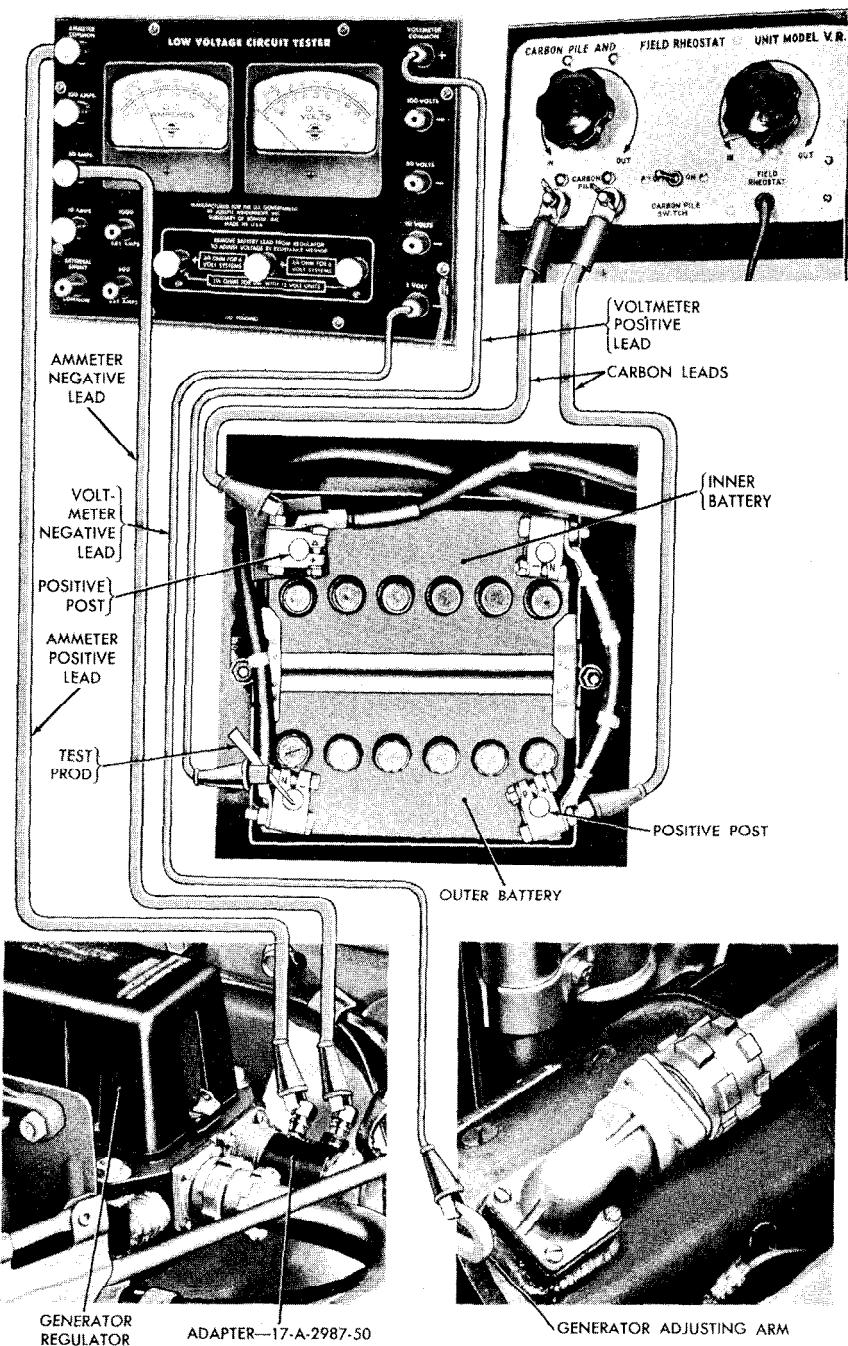
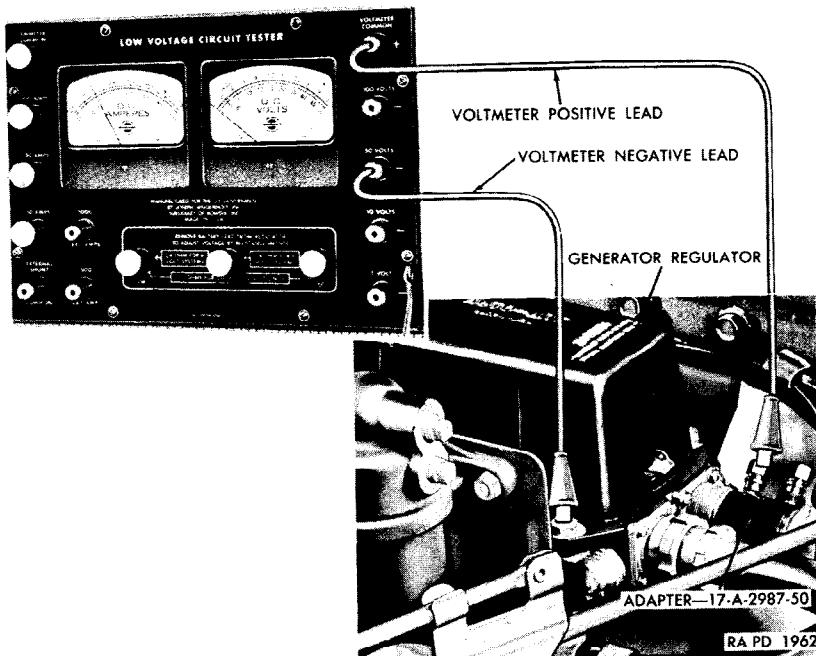

Figure 52. Checking charging system ground circuit resistance.
Figure 53. Checking voltage regulator setting.
- (7) *Operate carbon pile resistor and read voltmeter.* Operate the carbon pile switch and knob (*f* (10) above) and observe the upper scale of the voltmeter. The voltage reading should not exceed 1 volt when the generator is charging 24 to 27 amperes.
- (8) Remove testing equipment and perform necessary repairs! If voltage reading exceeds 1 volt, check for loose or corroded connections at the starter switch and battery terminal, and check for loose or damaged terminals on the battery-to-starter cable. Clean and tighten connections. Replace a damaged cable (par. 169f and g). Repeat the test. If resistance in the cable is satisfactory, remove the testing equipment (f(12) above) and test prod. Connect the cable to the generator and generator regulator.
h. Check Charging System Ground Circuit Resistance (fig. 52). Checking the charging system ground circuit resistance is to determine malfunctions which affect the operation of the voltage regulator. The generator must be operating properly and the engine must be at normal operating temperature. With the exception of the voltmeter test lead connections, the testing equipment connections are the same as those described in f above.
- (1) *Connect voltmeter positive (+) test lead.* Connect the voltmeter positive (+) test lead to the positive (+) terminal of the low voltage circuit tester and attach the clip end of the lead to the negative (-) post of the outer battery.
- (2) *Connect voltmeter negative (-) test lead.* Connect the voltmeter negative (-) test lead to the 1 VOLT terminal of the tester and attach the clip end of the lead to the generator adjusting arm.
- (3) *Connect ammeter test leads.* Connect the ammeter test leads (f(5) and (6) above).
- (4) *Connect carbon pile resistor leads to battery.* Connect the carbon pile resistor leads (f(9) above).
- (5) *Start engine and read test meters.* Start the engine and operate at a speed equivalent to 20 mph to obtain an ammeter reading of 24 to 27 amperes. Operate the carbon pile switch and knob (f(10) above) and observe the reading on the upper scale of the voltmeter. The reading should not exceed 0.1 volt. Stop the engine after noting the voltage.
- (6) *Perform necessary repairs.* If voltage reading exceeds 0.1 volt, check for loose generator or generator mounting bracket, corroded battery terminal, or a loose or dirty battery ground cable connection at the frame. Tighten generator bolts and generator mounting bracket bolts. Clean and tighten connections.
- (7) *Remove testing equipment.* Remove the testing equipment (f(12) above) and connect the cables to the generator and generator regulator.
i. Check Voltage Regulator Setting (fig. 53). The purpose of checking the setting of the voltage regulator is to determine the cause